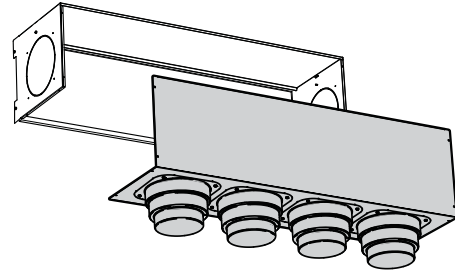

Fig.10
removed at the previous section (fig.10)
- Rotate the flange downwards and fasten it using the screws removed at the previous section (fig.10)